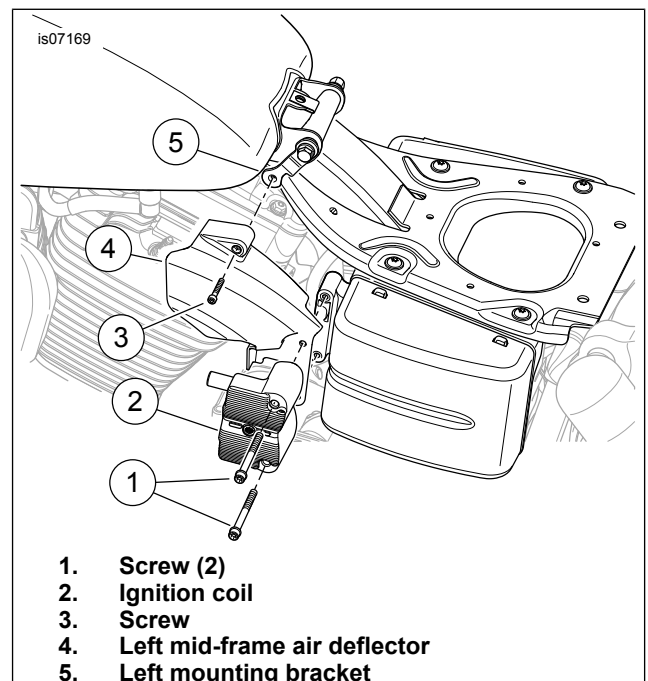

Figure 2. Install Left Mid-Frame Air Deflector
4. See Figure 2. Install the left air deflector as follows:
- a. Remove and retain ignition coil mounting screws (1).
- b. Position the left mid-frame air deflector (4) over the ignition coil mounting holes.
- c. Install the ignition coil (2) over the mid-frame air deflector (4) and secure it with the previously removed screws (1).
- d. Install screw (3) and mid-frame air deflector (4) to the left mounting bracket (5). Do not tighten Screw.